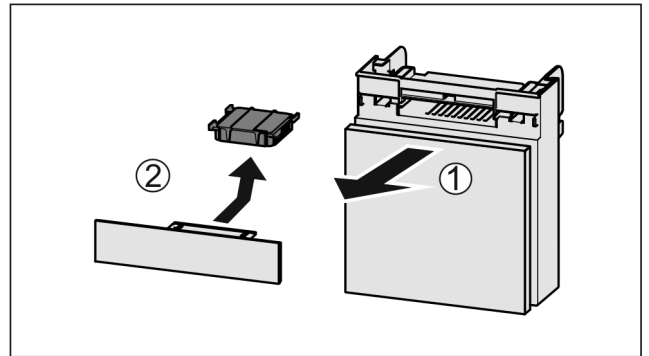

Fig. 153
- Pull out the compartment Fig. 153 (1).
- Remove the carbon filter Fig. 153 (2).